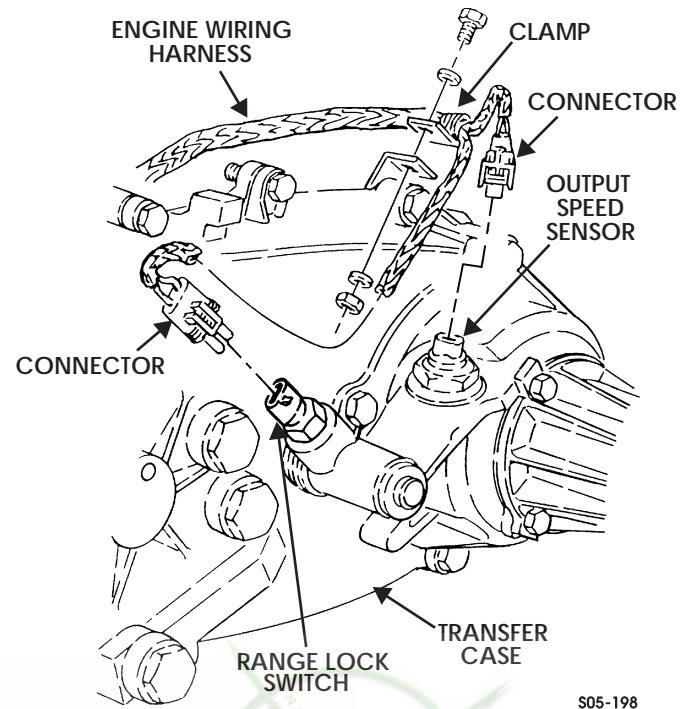

Figure 5-121: Speed Sensor and Lock Switch Connectors
3. Disconnect engine wiring harness connectors from output speed sensor and range lock switch (Figure 5-121).